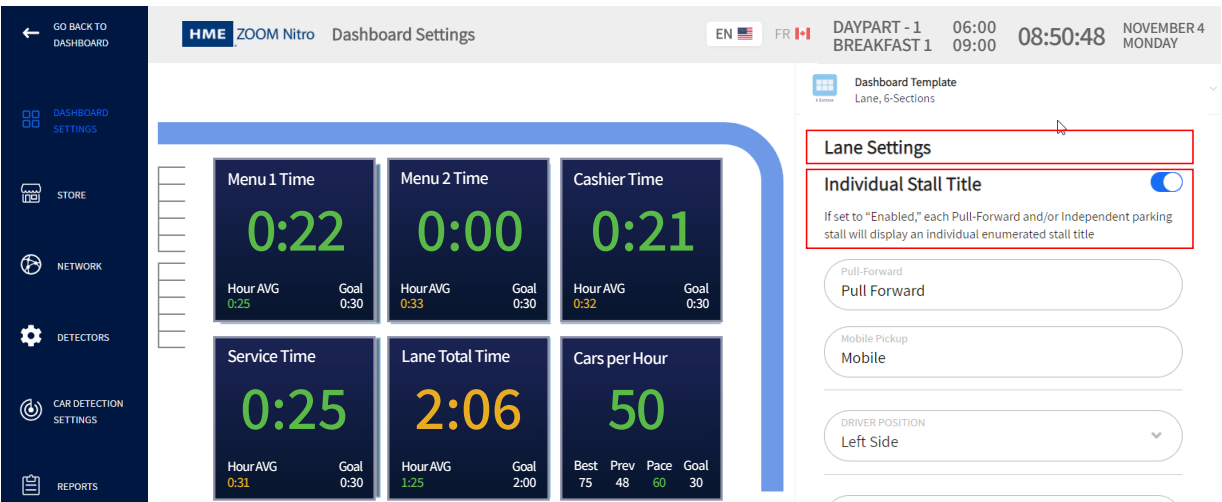

Fig. 3.13
DAYPART/SHIFT OPTION Show DP with Time	DAYPART/SHIFT OPTION: Different combinations of Daypart (DP), Shift, and Time can be selected here to be displayed at the top of your Dashboard screen (see Fig. 3.13).